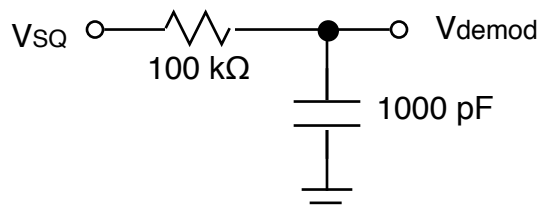

Figure 3.4. Averaging network to demodulate PWM signal.
- 3.3 For V_{ext} , increase the function generator frequency to about 200 Hz. Construct the averaging network (low-pass filter) shown in Figure 3.4. Compare V_{demod} with the PWM input V_{ext} . Explain.